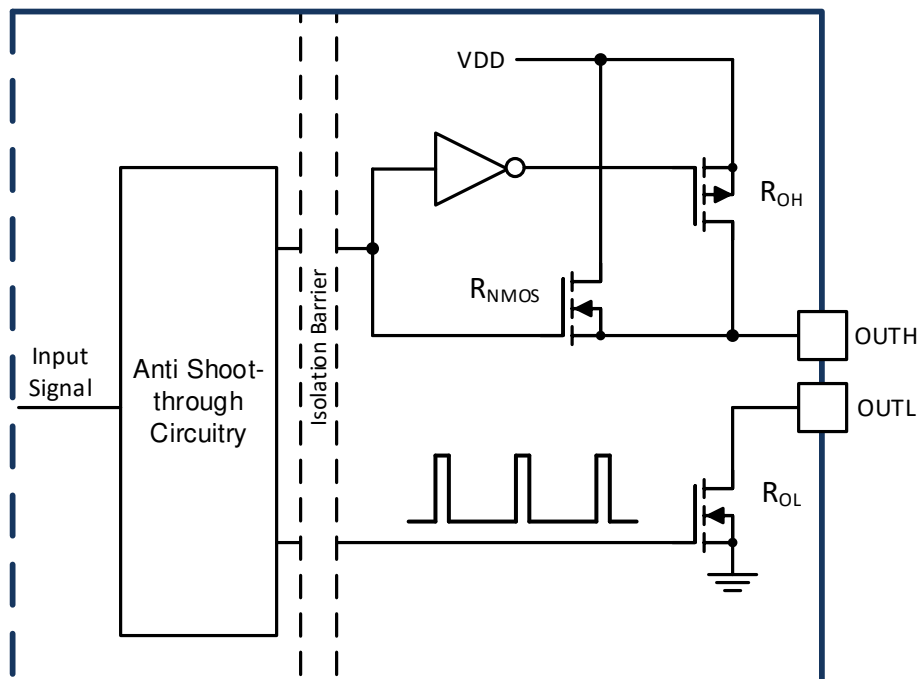

Figure 8-1. Gate Driver Output Stage
The UCC21750 has ± 10 -A peak drive strength and is suitable for high power applications. The high drive strength can drive a SiC MOSFET module, IGBT module or paralleled discrete devices directly without extra buffer stage. The UCC21750 can also be used to drive higher power modules or parallel modules with extra buffer stage. Regardless of the values of VDD, the peak sink and source current can be kept at 10 A. The driver features an important safety function wherein, when the input pins are in floating condition, the OUTH/OUTL is held in LOW state. The split output of the driver stage is depicted in Figure 8-1. The driver has rail-to-rail output
by implementing a hybrid pull-up structure with a P-Channel MOSFET in parallel with an N-Channel MOSFET, and an N-Channel MOSFET to pulldown. The pull-up NMOS is the same as the pull down NMOS, so the on resistance R_{NMOS} is the same as R_{OL} . The hybrid pull-up structure delivers the highest peak-source current when it is most needed, during the miller plateau region of the power semiconductor turn-on transient. The R_{OH} in Figure 8-1 represents the on-resistance of the pull-up P-Channel MOSFET. However, the effective pull-up resistance is much smaller than R_{OH} . Because the pull-up N-Channel MOSFET has much smaller on-resistance than the P-Channel MOSFET, the pull-up N-Channel MOSFET dominates most of the turn-on transient, until the voltage on OUTH pin is about 3 V below VDD voltage. The effective resistance of the hybrid pull-up structure during this period is about $2 \times R_{OL}$. Then the P-Channel MOSFET pulls up the OUTH voltage to VDD rail. The low pull-up impedance results in strong drive strength during the turn-on transient, which shortens the charging time of the input capacitance of the power semiconductor and reduces the turn on switching loss.
- $R_{\text{OH_EFF}}$ is the effective internal pull up resistance of the hybrid pull-up structure, shown in Figure 8-1, which is approximately $2 \times R_{\text{OL}}$, about 0.7 Ω . This is the dominant resistance during the switching transient of the pull up structure.